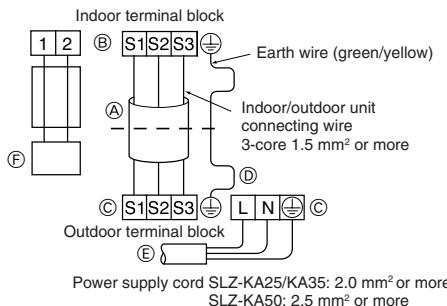

Fig. 7-4
- Perform wiring as shown in the diagram to the lower left. (Procure the cable locally) (Fig. 7-4)